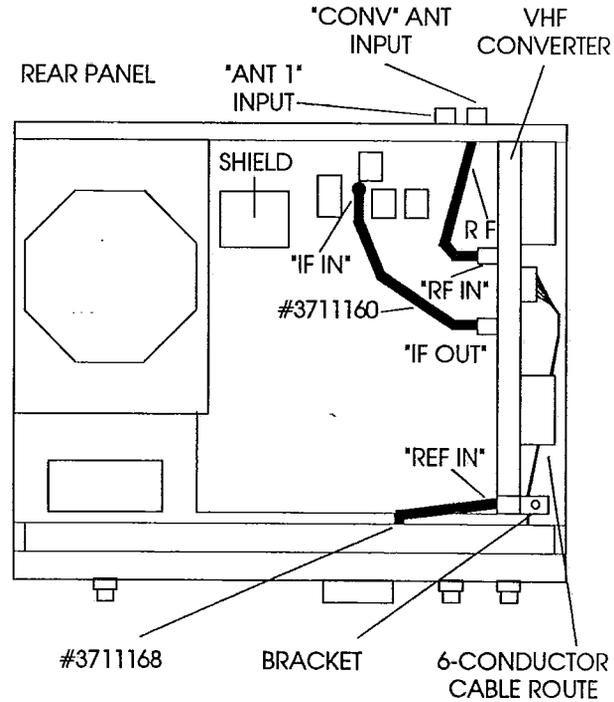

FIGURE 5 R8 TOP VIEW
8) Position the R8 receiver so it rests on its bottom chassis with front panel facing towards you. Plug the unconnected end of the 26' 'REF' coaxial cable #3711168, into the 'REF IN' connector located on the VHF converter assembly as shown in Figure 5.
9) Locate the factory installed coaxial cable connected to the rear panel 'CONV' antenna input connector. Disconnect the terminal end of this coax from the Front End Board connector. Plug the coax cable into the 'RF IN' terminal of the VHF Converter as shown in Figure 5.